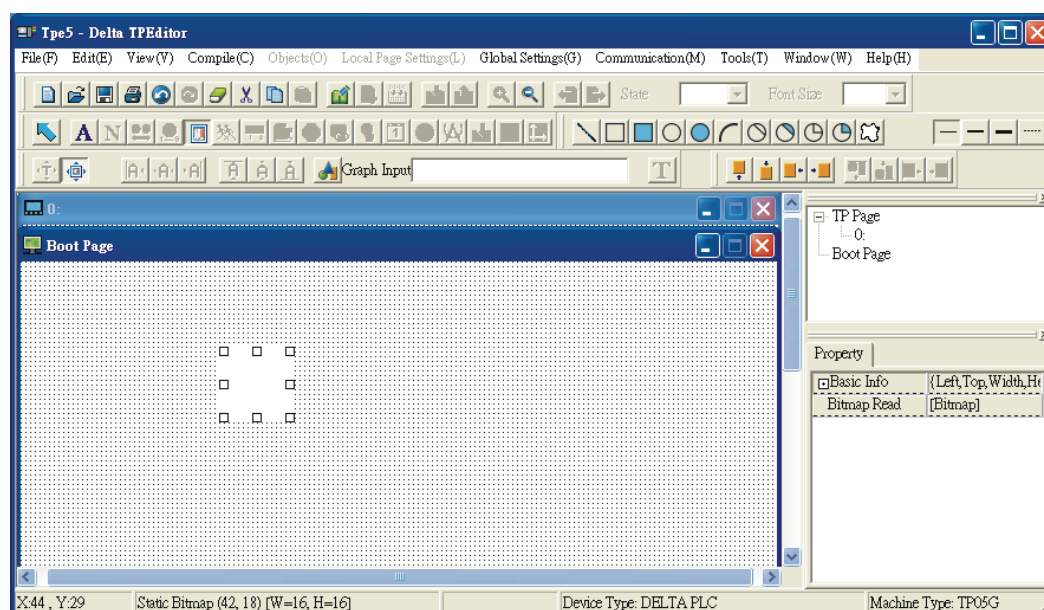

Figure 3-2
Step 2. In the editing screen area of Boot Page window, only two objects can be created. One is Static Text  and the other is Static Bitmap . After click the icon  on the object toolbar and move the mouse on the editing screen area, the cursor will be a +. Left click and drag the mouse in the editing screen area. The screen will look like the Figure 3-2 below after the square  is made.